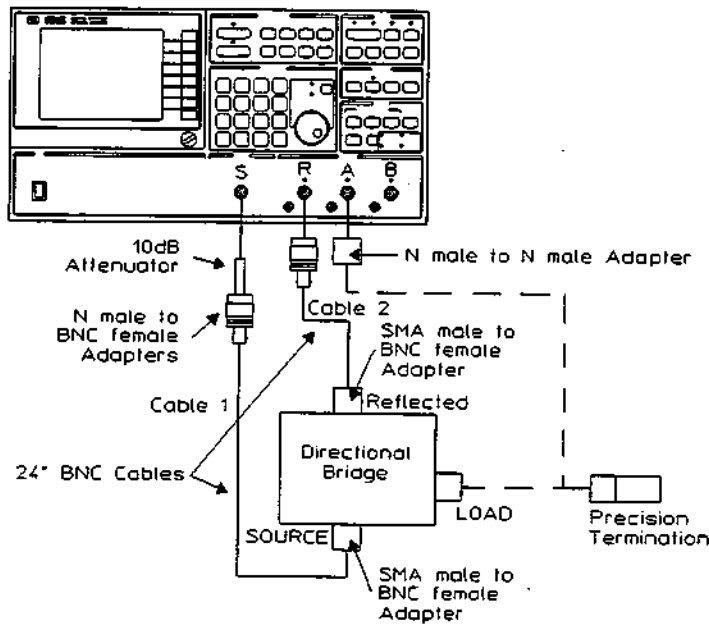

Figure 3-13. Receiver Return Loss Test Set-Up
- b. Connect the equipment as shown in figure 3-13, leaving the load port of the directional bridge unconnected.